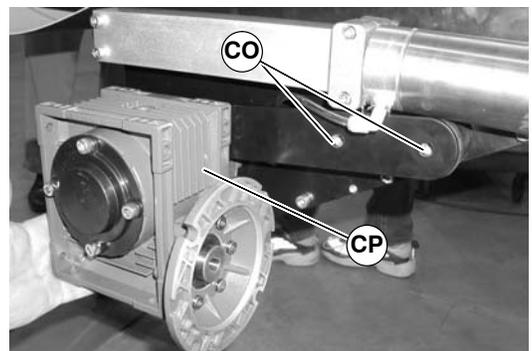
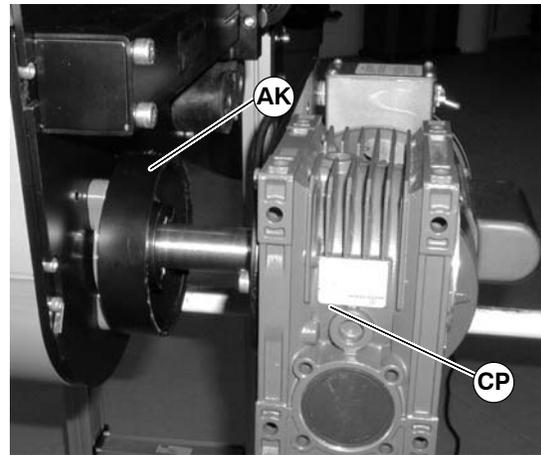

Figure 85
Figure 89
- Remove screws (CO of Figure 85) and remove gearmotor (CP) (NOTE: Gearhead shown with motor removed for clarity, motor can remain attached to gearhead).
9. Reinstall spacer ring (AK of Figure 89) and gearmotor (CP). Tighten screws (CO of Figure 85) to 150 in-lbs (17 N-m).